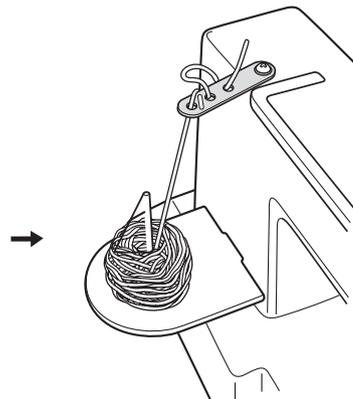

Fig. 3
5. Once again, wrap yarn to the underside of yarn & ribbon guide and insert into the first hole as shown in Fig. 3.